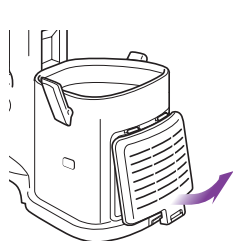

Fig. 23
- 1 Remove the filter cover from the front of the vacuum by pulling up on the tab and pulling the cover away from the vacuum. **(Fig. 23)**
- 1 Remove the filter cover. **(Fig. 23)**